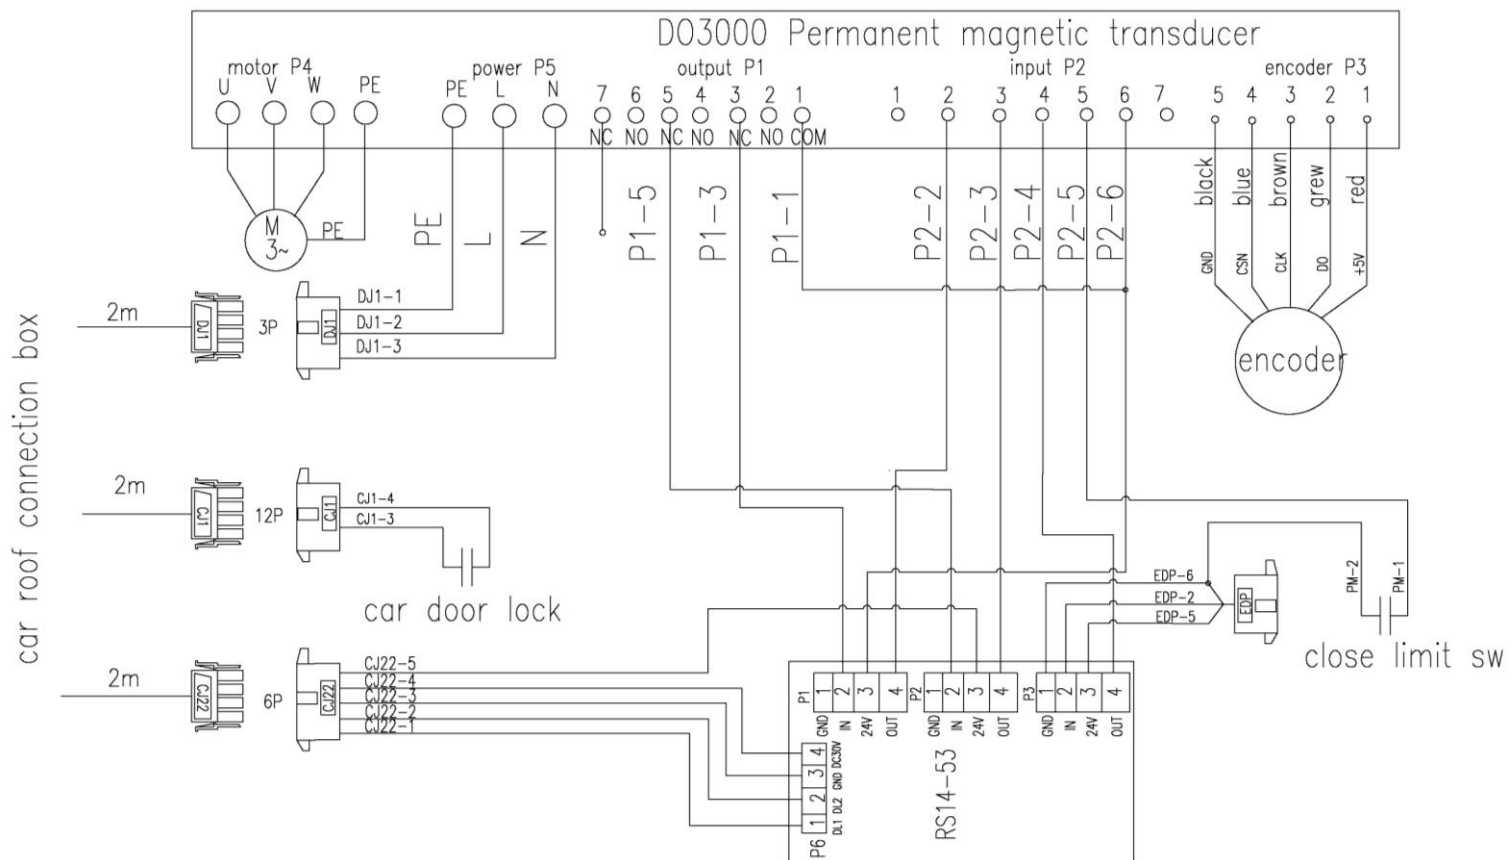

Fig. 3-1 Transducer wiring diagram
See the wiring in Fig. 3-1.
- ◆ Cable CJ 1, DJ 1, CJ 17 and CJ 22 is attached to the door operator, connect them correctly as shown in Fig. 3-1.